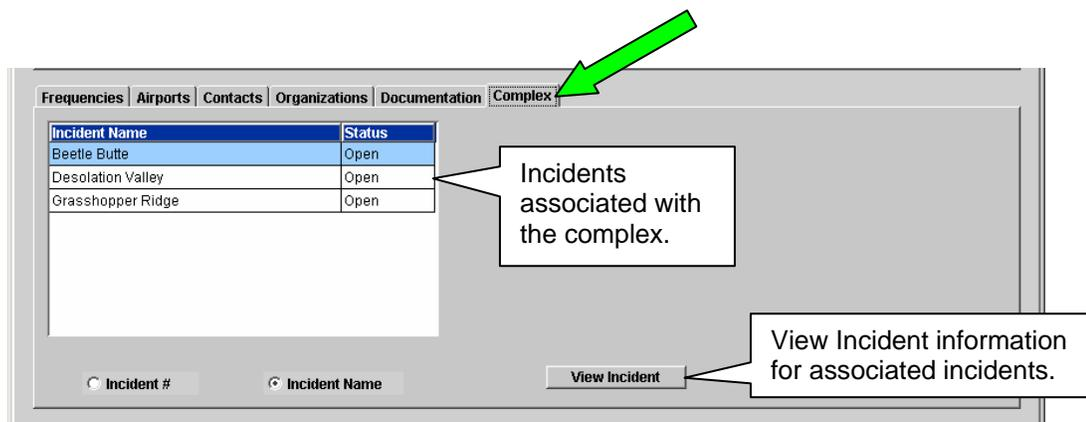

Figure 9. Complex tab added to View Incident screen.
- A 'Complex' tab has been added to the View Incident screen (Figure 9). The tab is only displayed when the selected incident is a complex or a member of a complex. The incident name / number and status (open or closed) of all related incidents are displayed. Another View Incident button allows users to go directly to information about any of the related incidents.